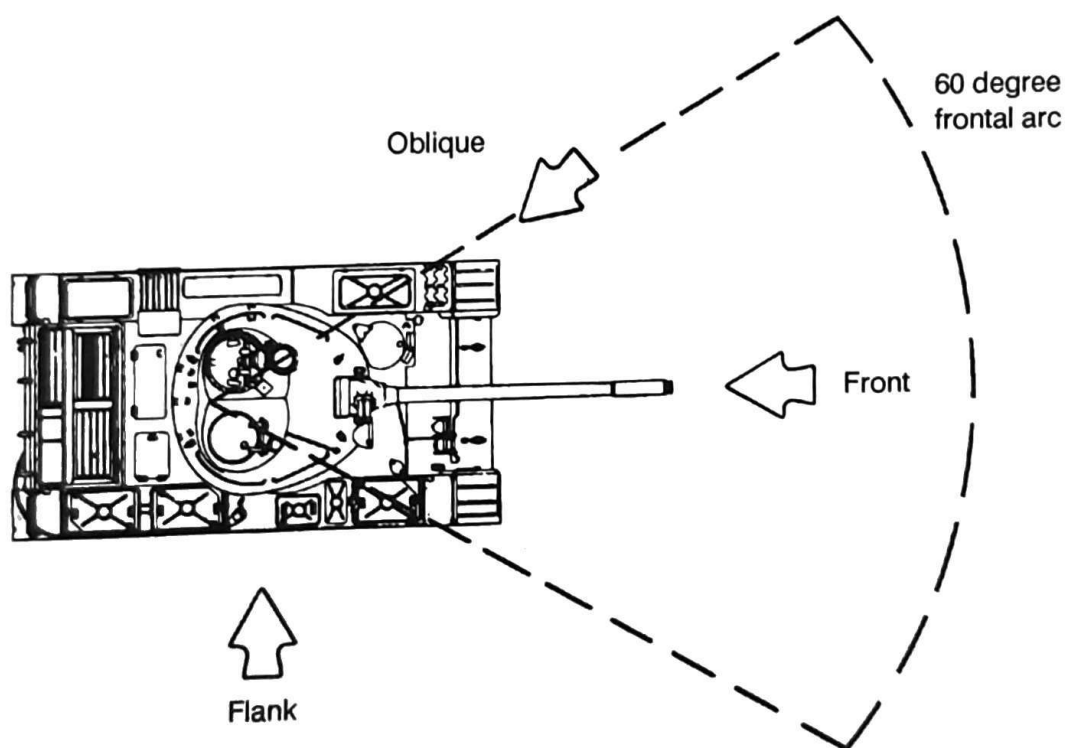

Figure 3-20. Flank and oblique target shots.
c. Frontal fire is usually avoided. An antitank weapon firing frontally is an exception. A tank's firepower and observation are oriented to the front. This makes it difficult to detect and retrace an ATGM launched from its flank. Firing at frontal targets lowers the odds for a mobility kill, which can be acquired by hitting the vehicle's wheels, track, or suspension system. The highest-percentage of mobility kills result from flank and oblique target shots. (See Figure 3-20.)